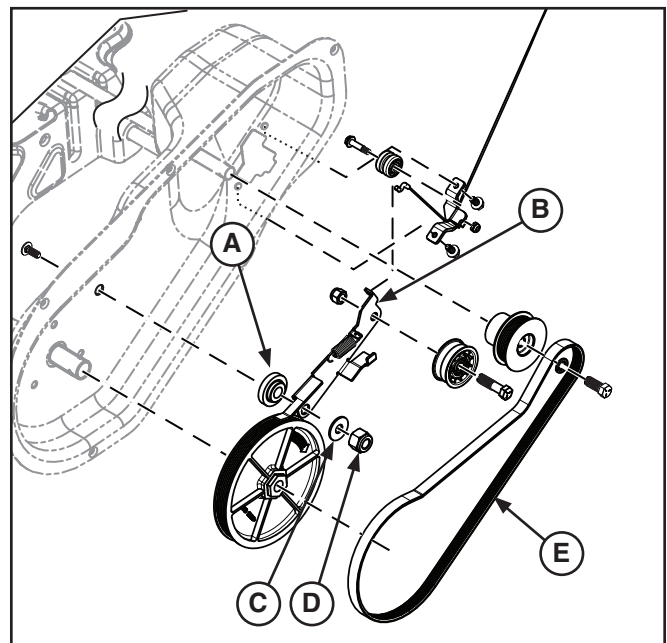

Figure 2. Spacer and Nut
- Variations in idler arm spacer thickness (A, Figure 2) along with variation in the torque of nylock nut (D) may cause misalignment of the belt and pulleys resulting in belt failure.